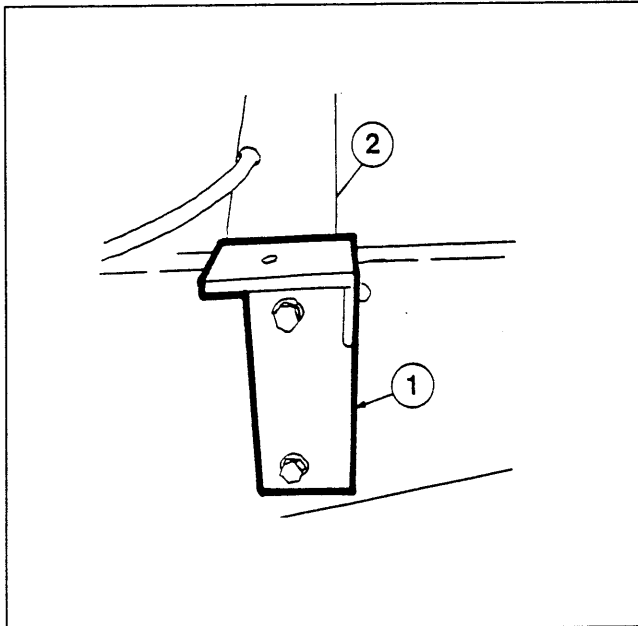

Figure 1
2. Take the left rear bracket (1) and position it against the two-hole bolt pattern in the chassis, directly behind the fuel tank. ENSURE the two-hole bolt pattern in the bracket is towards the front. Take one of the rear bracket supports (2) and position it against the two-hole bolt pattern from the inside of the chassis. Loosely bolt the bracket, through the chassis, to the support using the 1/2"x1 1/2" hex bolts, hex nuts, and lockwashers supplied. (see Figure 1)